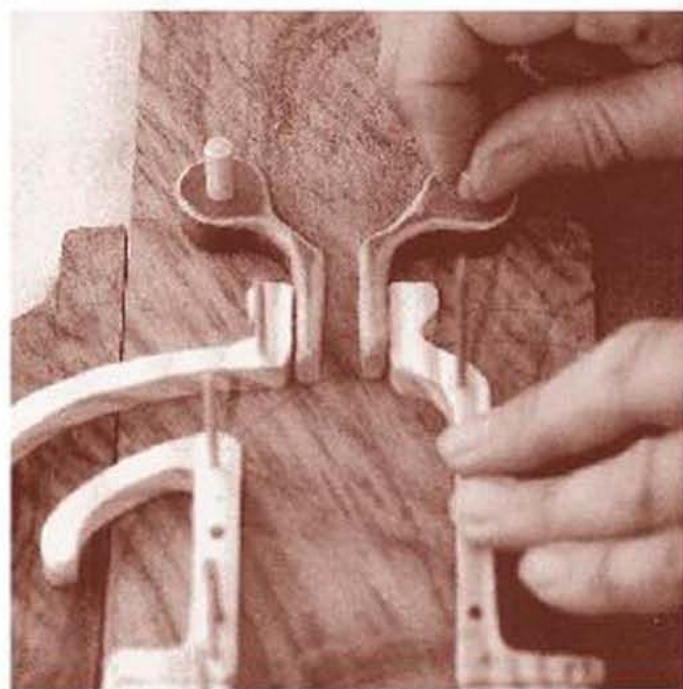

FIGURE 24-10
- 2** Do a trial assembly. Start by pegging the chamber sides and the wadding wedges onto the backboard (Figure 24-10). Note how the wadding pins need to be long enough to take the neck bar.